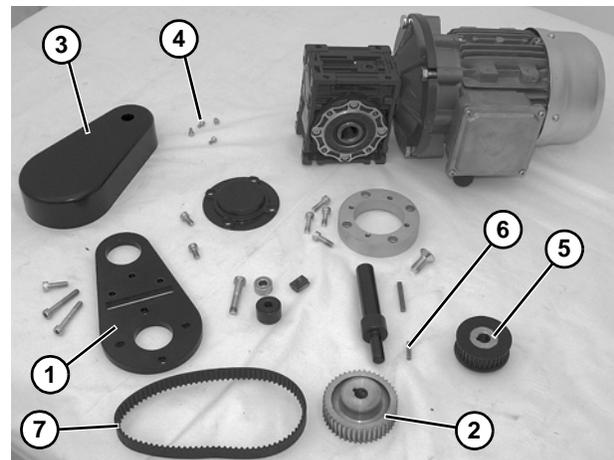

Figure 4
1. Gather installation components (Figure 4)
Type 1 mounting package shown (Figure 4), Type 2 mounting package similar.